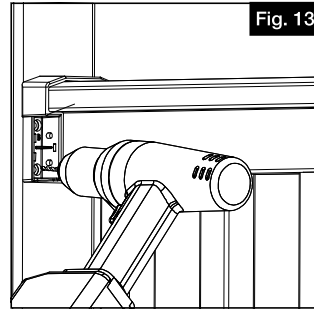

Fig. 13
- ii. Repeat pre-drilling process for remaining three screws (Fig. 13).